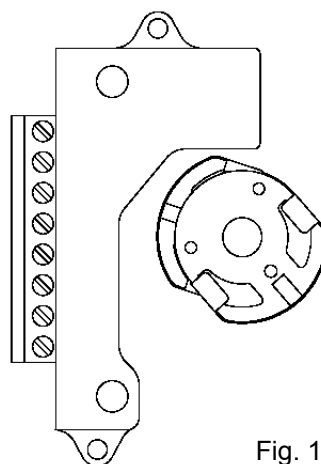

Fig. 1
I. For Normally Open Function (See Fig. 1):